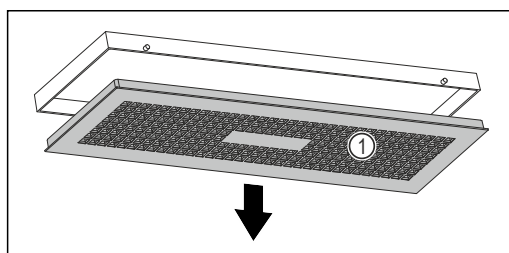

Fig. 112
- Slowly turn the water box down while holding the cover Fig. 112 (1).
- Remove the cover Fig. 112 (1).